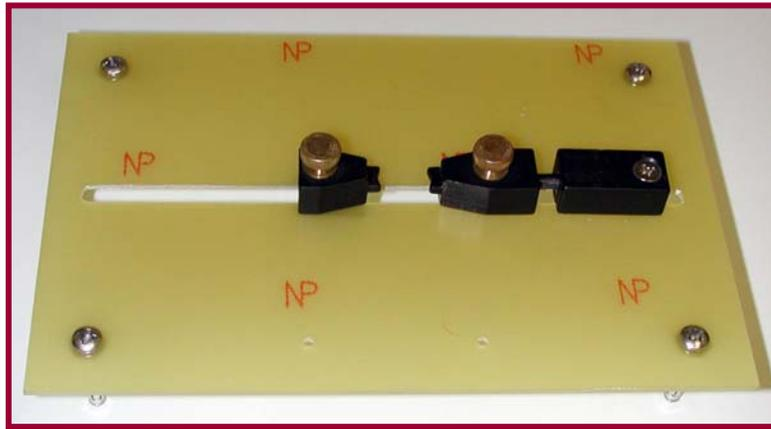
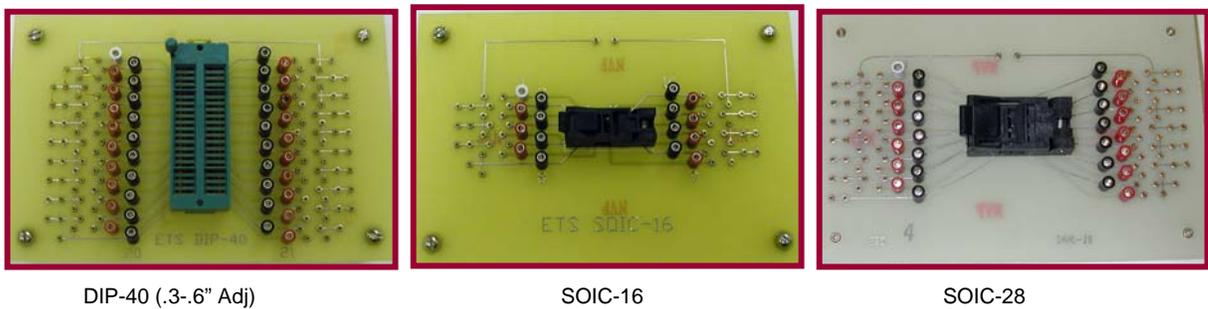

Figure 2.0-2: Standard universal DUT holding fixture
Figure 2.0-3: Socketed DUT test fixtures
Adapter modules are available for holding a wide variety of devices and providing for their connection to the OUTPUT terminals of the Discharge Simulator. Standard with the Model 910 is a universal holding fixture that retains the device under test (DUT) so the minigrabber test leads can be connected to the appropriate pin pair as shown in Figure 2.0-2. Standard test fixtures with zero insertion force test sockets for DIP and SOIC type packages, shown in Figure 2.0-3, are also available as accessories along with custom designed fixtures for special applications. These test fixtures feature programming pins for tying groups of like V, signal and ground pins together as required in many specifications.
**INTERVAL Adjustment:** The INTERVAL adjust control, which provides for setting the “cool down” time interval between discharges is an uncalibrated control, and if accurate timing is required, must be calibrated against an external reference (e.g., digital watch, stopwatch with sweep hand, etc.). To accurately set the INTERVAL control, turn off the internal High Voltage Supply by setting the High Voltage ON/OFF switch to OFF (up). Set the INTERVAL control to 9, the COUNT/HOLD switch to COUNT then depress the RESET switch, and when ready, depress the DISCHG Switch. Using an external timing reference, measure the time interval between flashes of the AMBER DISCHARGE light. Adjust the INTERVAL control until the desired “cool down” period is obtained. (NOTE: The discharge cycle time has been set during assembly to 0.65 seconds, hence, the “cool down” time will be the time measured between flashes of the amber DISCHARGE light minus 0.65 seconds. Refer to Figure 2.0-3). After calibration, turn on the High Voltage (High Voltage ON/OFF switch to ON).